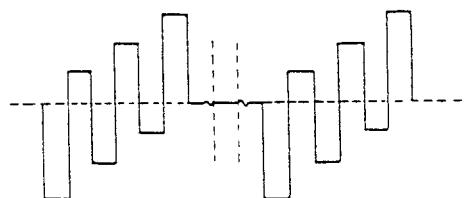

Fig. 20 B-Y Signal
- (d) Adjust L209 to obtain a B-Y signal with correct chrominance output, as shown in Fig. 20.